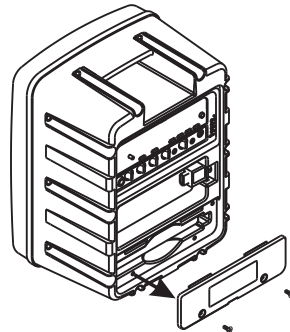

Fig. 32
- (B) Remove the battery compartment cover, Fig. 32.